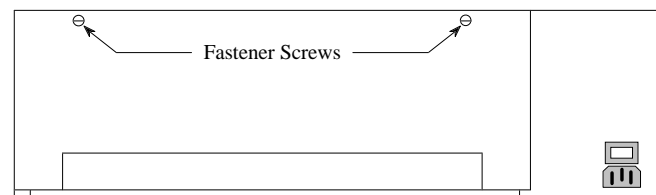

Figure 3 - Fastener Screw Location In Earlier VAX
2. Loosen the two fastener screws holding the back panel to the chassis (see Figure 3).